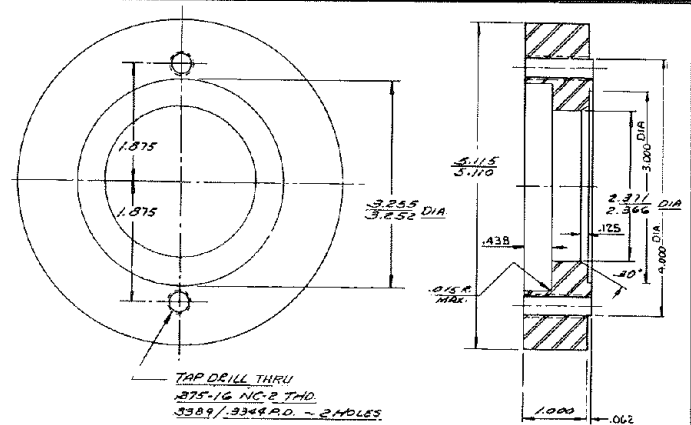
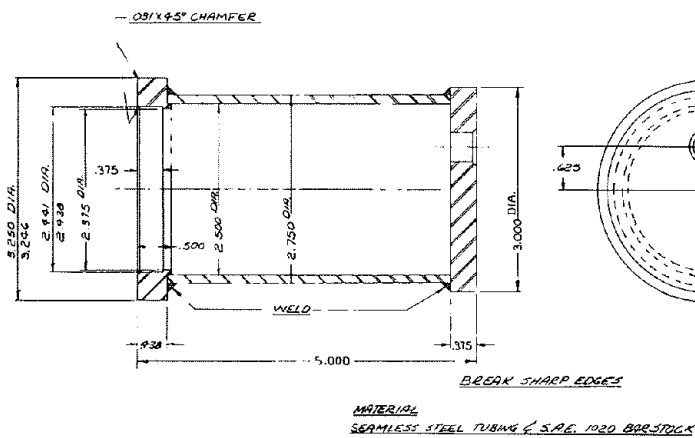

Fig. 14 MAINSHAFT-REAR BUSHING
Fig. 13 DRIVER
7. Install bearing pilot tool for rear mainshaft bore. Refer to Page 25 Figure 14 for this tool. The tool is to help in proper alignment of mainshaft and gears for easier alignment of drive gear sub-assembly that is all ready in front case bore.
14. Start mainshaft rear bearing (B-23) inner race bore on mainshaft, using the bearing pilot tool against the bearing faces. Use drive tubing, Figure 13 to drive against pilot tool, Figure 14 to drive bearing on shaft and into bore of case. Seat bearing snap ring against main case face.